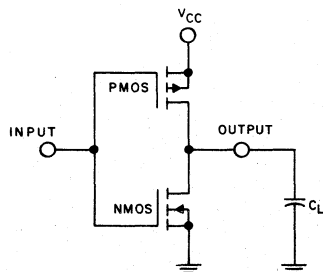

Fig. 4 - Simple QMOS inverter circuit driving a capacitive load.
- Load capacitance - dissipation of output state, Fig. 4.